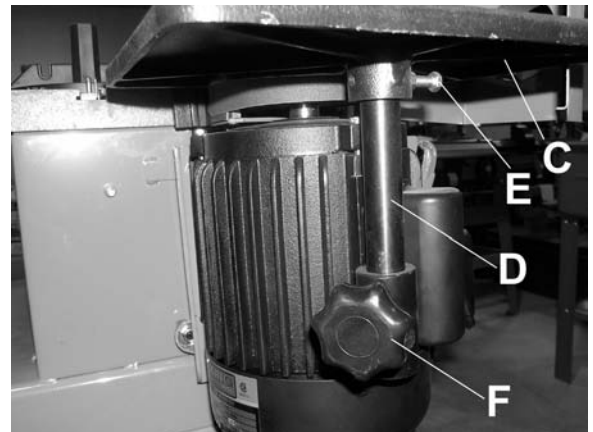

FIGURE 6
- 1) Fasten the end table (C-Fig.6) to the end table post (D-Fig.6) using hex. bolt and hex. nut (E-Fig.6). Tighten the hex. bolt against the flat on the end table post.
- 2) Insert the end table post into the end table support bracket fixed to the motor and secure the end table to the desired height using lock knob (F-Fig.6).